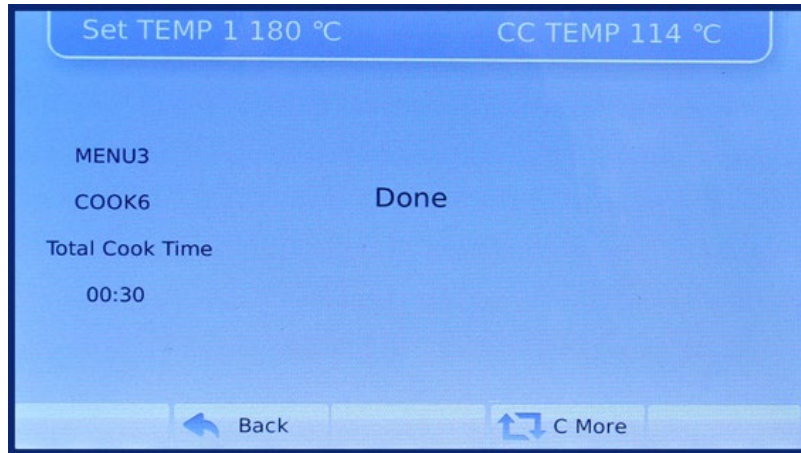

Figure 11
Cooking done as Fig11.
4.3.4 Cook more: In Fig11, touch “C-More” key to cook more, or brown more, or cook & brown more